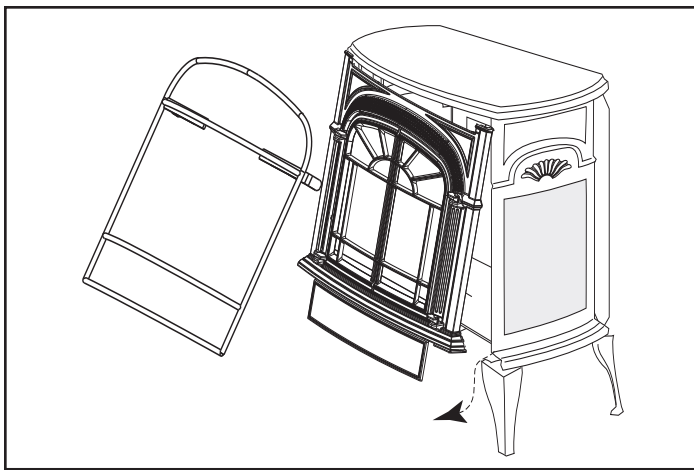

Figure 80 - Remove the safety barrier and stove front.
Replace glass only with Vermont Castings approved parts. Refer to Figures 80 and 81 for removal of the damaged glass frame.
2. Open the swiveling latches (cams) on the top left and right corners of the glass frame, Figure 80.